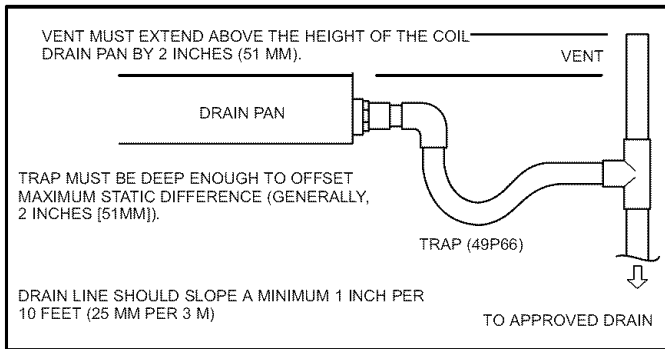

Figure 13. Condensate Drain Connection
Connect main condensate drain and route downward to an open drain or sump. Do not connect drain to a closed waste system. Refer to figure 13 for typical condensate trap configuration.
- Leave an open vent in the drain line, as shown in figure 13 to overcome line length, friction and static pressure.
- Construct drains in a manner which will facilitate future cleaning. Drains must not interfere with filter access as illustrated in figure 13 on page 9 .